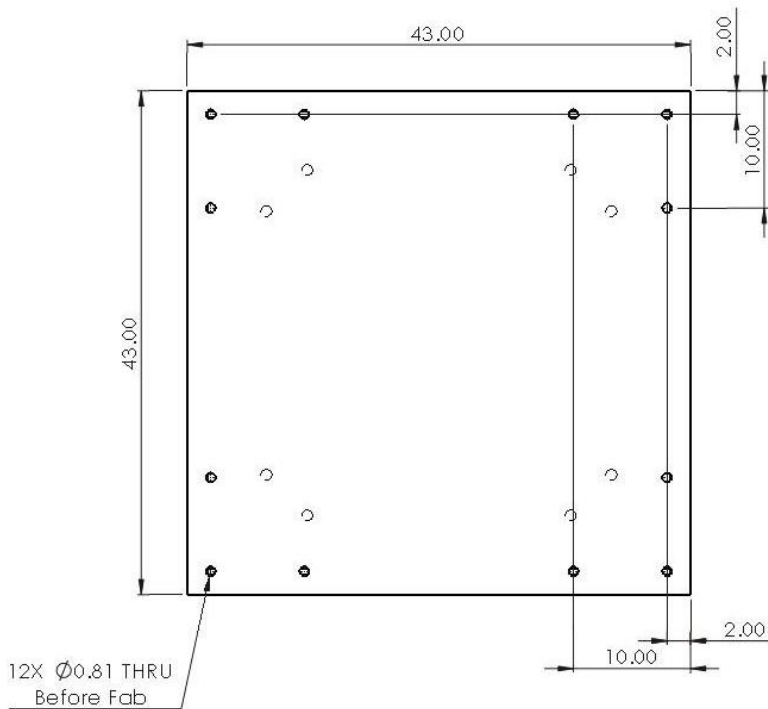

Figure 6: Robot Base Footprint Detail
The Robo SawJet robot is mounted on a steel pedestal and the base has a 43"x43" footprint. The robot pedestal shall be lagged on a **FLAT** concrete floor, **NEVER raised**, and shall NEVER be placed over a seam/joint in the concrete. Below are the minimum recommended foundation details: See Figure 6 for base footprint details.
- C. There cannot be any steel reinforcement bars or other obstructions in the concrete that would prevent drilling into the foundation when using a standard concrete drill bit. See robot base detail in figure 6 below.